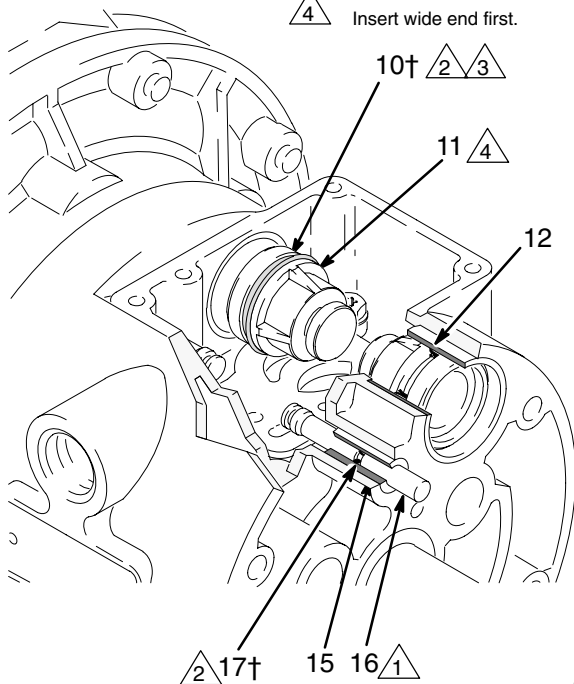

Fig. 10
4. Pull the two actuator pistons (11) out of the bearings (12). Remove the u-cup packings (10) from the pistons. Pull the pilot pins (16) out of the bearings (15). Remove the o-rings (17) from the push pins. See Fig. 10.
6. Inspect the bearings (12, 15) in place. See Fig. 10. The bearings are tapered and, if damaged, must be removed from the outside. This requires disassembly of the fluid section. See page 20.
4. Install an o-ring (17) on each pilot pin (16). Grease the pins and o-rings. Insert the pins into the bearings (15), **narrow** end first. See Fig. 10.
5. Install a u-cup packing (10) on each actuator piston (11), so the lips of the packings face the **narrow** end of the pistons. See Fig. 10.
6. Lubricate the u-cup packings (10) and actuator pistons (11). Insert the actuator pistons in the bearings (12), **wide** end first. Leave the narrow end of the pistons exposed. See Fig. 10.